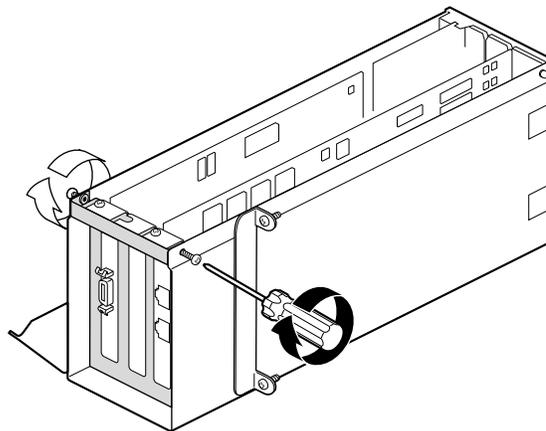

Figure 4-41 Inserting the I/O Door Screws
7. Insert, but do not tighten, the screws holding the I/O door to the PCI module, as shown in Figure 4-41.